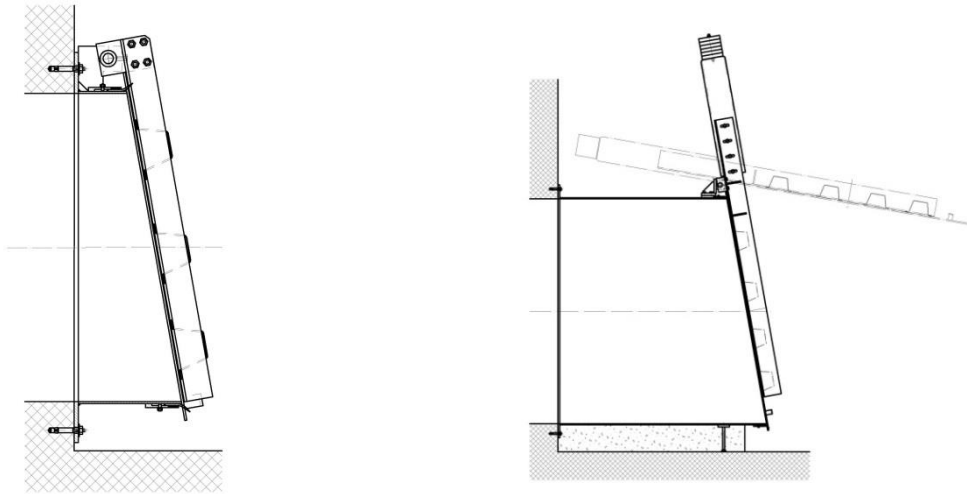

Fig. 3
- Position Flap Valve in the respective place and align with plumb level. The drive shaft on the Flap Valve center of rotation has to be completely leveled (Fig. 3).